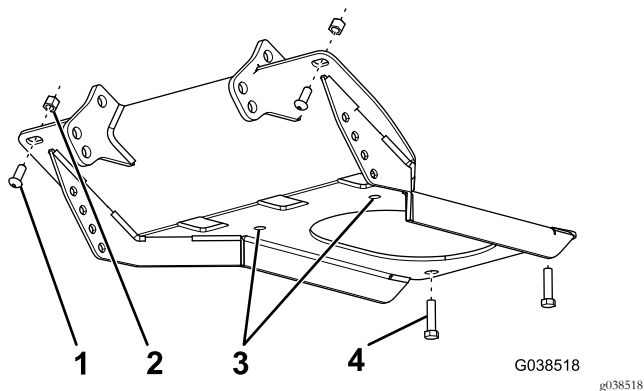

Figure 1
4. Using 2 button-head bolts and 2 locknuts (3/8 inch), loosely attached the plow skid plate and the vehicle front skid plate to the vehicle bumper (Figure 1).
5. Using the 2 previously removed bolts, loosely attach the plow skid plate and vehicle bottom skid plate to the vehicle frame (Figure 1).
6. Using the plow skid plate as a guide, drill out the 2 holes in the vehicle bottom skid plate to 7/16-inch (Figure 1).